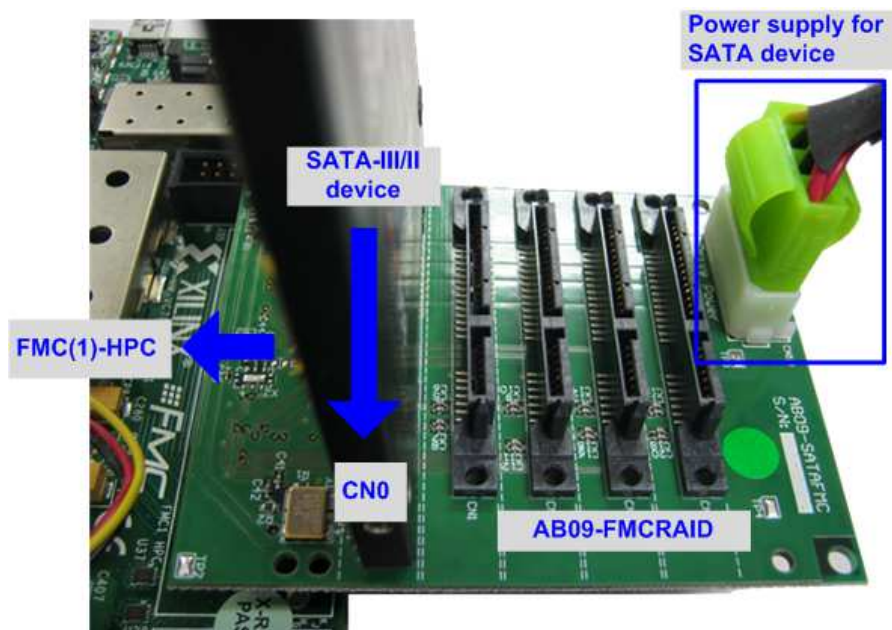

Figure 2-7 AB09-FMCRAID connection
- The connections are shown in Figure 2-7.